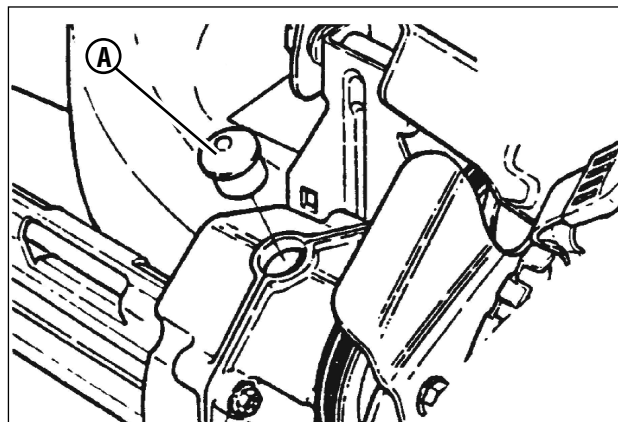

Figure 17: Removing the transmission fill plug
1. Remove the transmission fill plug (A, Figure 17). Roll the machine forward or backward while looking down into the plug hole.